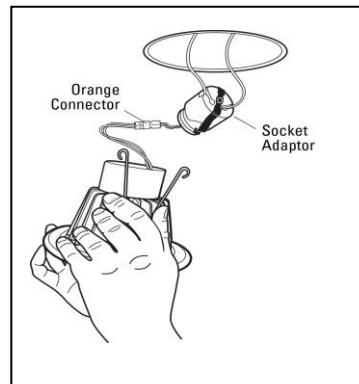

Figure 4
2. Securely screw socket adapter into socket inside the can. Plug the orange connector of socket adapter into the LED module's mating orange connector. (Figure 4)